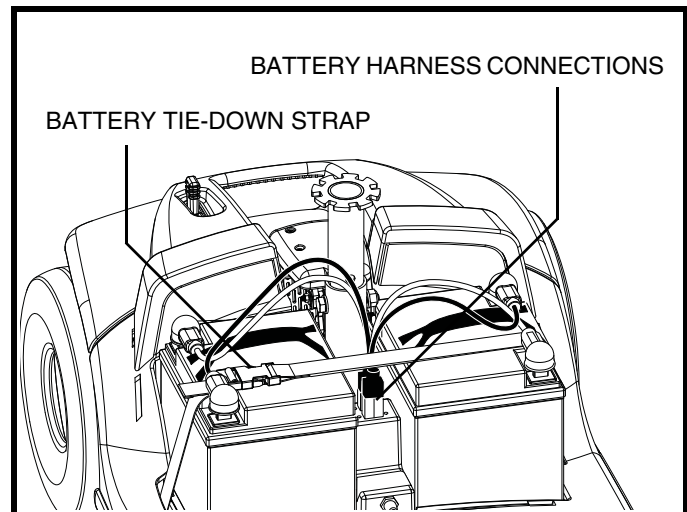

Figure 19. Harness Connections
4. Unplug both battery harnesses by pulling each harness straight up. **See figure 19.**
6. Connect both battery harnesses. **See figure 19.**